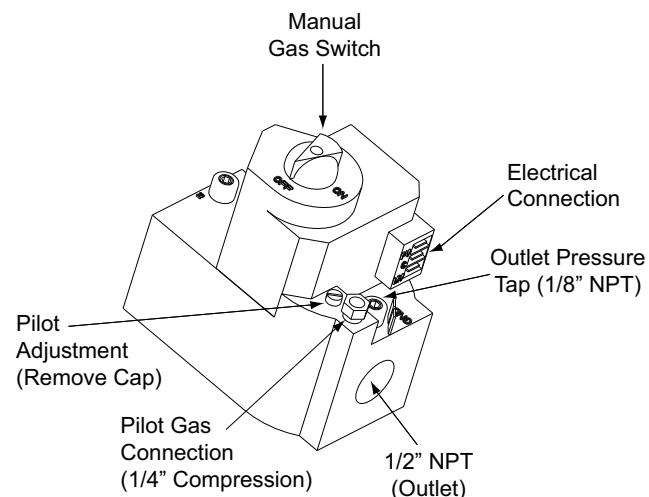

FIGURE 13 - SINGLE STAGE GAS VALVE - FRONT
Small adjustments to the gas flow may be made by turning the pressure regulator adjusting screw on the automatic gas valve. Refer to Figures 13 and 14.
1. Remove the cap from the valve body. See Figures 13 and 14 for location.